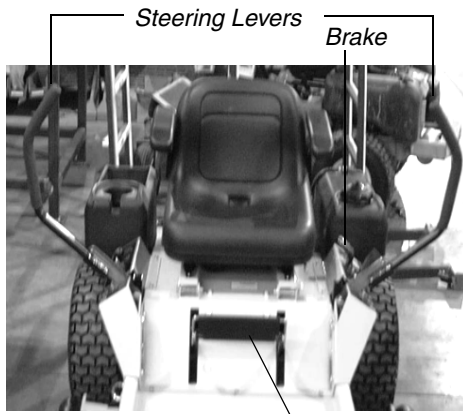

Figure. 3
3. **Left and Right Steering Levers:** (See Figure 3.) These hinged levers open out to the side in the neutral position to permit the operator to be seated or to leave the mower's seat. The operator, when seated, can pull the levers up to the operating position, a comfortable forearm's length away. These levers control all of the movements of the mower. Pushing both levers forward causes the mower to move forward. Pulling both levers back causes the mower to move backward. Pushing one lever ahead of the other lever causes the traction wheel on the side where the lever is ahead to rotate faster than the other traction wheel, making the mower turn toward the side where the lever is behind. When one lever is pushed forward and the other lever pulled back the same amount, one traction wheel will turn in reverse and the mower will turn within its own length.
5. **Parking Brake:** (See Figure 3.) Located on the left side of the traction unit. The handle is an overcenter lever which applies the drum brakes on the drive wheels when the handle is pulled to the rear. The brake must be engaged in order to start the engine.
6. **Deck Lift Handle:** (See Figure 3.) Located on the panel in front of the seat. Raise the mowing deck to the transport position, by pulling the handle to the rear and moving it upward for transport. To lower the mowing deck, pull the deck lift handle to the rear and lower it to the desired position.